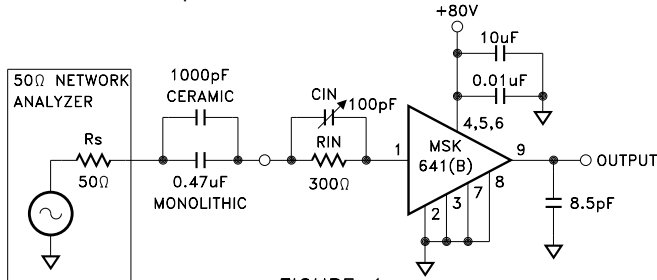

FIGURE 1
- ① RIN = 300Ω, CIN = 100pF, CLOAD = 8.5pF, RL = ∞, unless otherwise specified (See Figure 1).
- ② Guaranteed by design but not tested. Typical parameters are representative of actual device performance but are for reference only.
- ③ Industrial grade devices shall be tested to subgroups 1 and 4 unless otherwise specified.
- ④ Military grade devices ('G' suffix) shall be 100% tested to subgroups 1,2,3 and 4.
- ⑤ Subgroup 5 and 6 testing available upon request.
- ⑥ Subgroup 1,4 TA = TC = + 25° C
The signal source in Figure 1 can be either a fast pulse generator or a network analyzer as long as the output impedance is 50 ohms. The DC level of the input should be 1.55V and all cables should be kept as short as possible. Since total load capacitance should be kept below 8.5pF, a FET probe should be used on the output.
Transimpedance amplifiers relate input current to output voltage. The MSK 641 contains an internal 4K $\Omega$  feedback resistor. This resistor converts input current to output voltage in the following manner (See Figure 1):